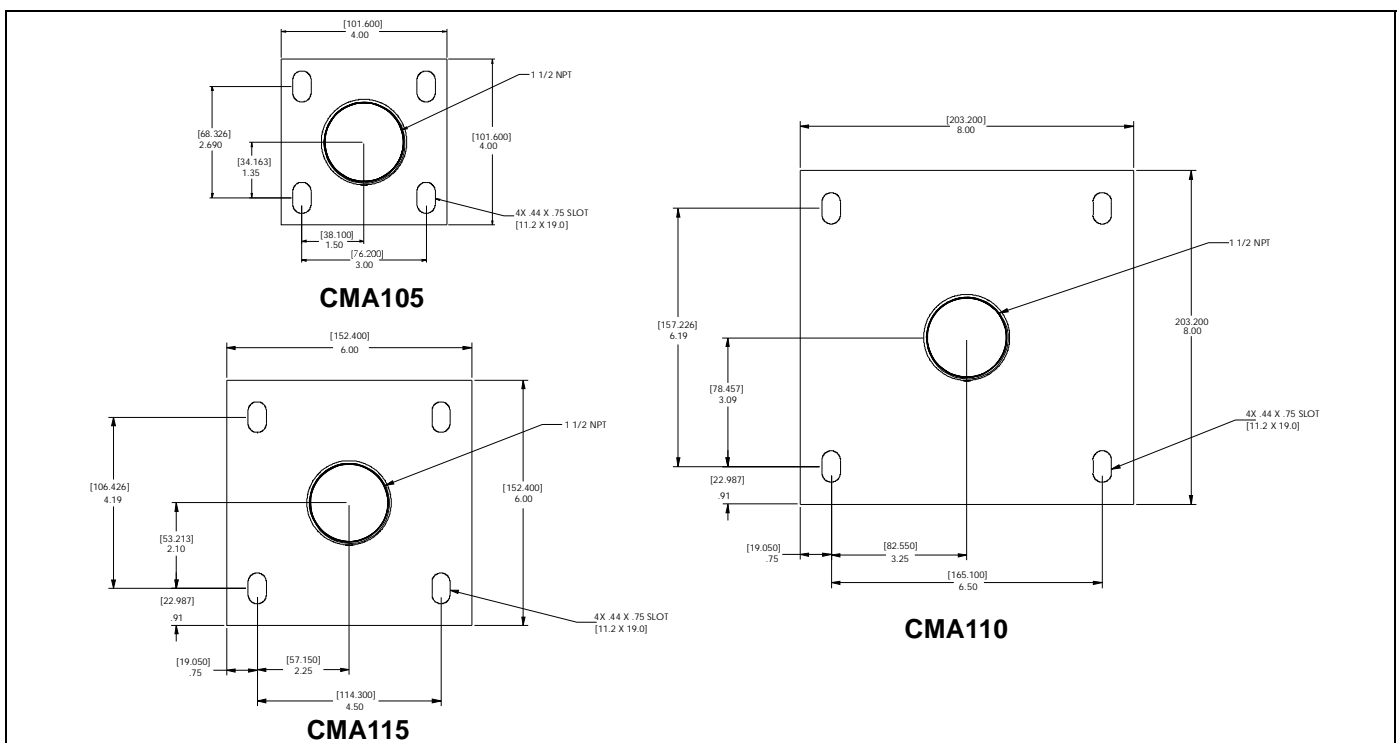

Figure 1
1. Use 5/16-18" x 2-1/2" (minimum) Grade 2 lag screws (not included) to secure CMA mount to the joists or wood framework, using the bolt holes noted. (See Figure 1)
1. Insert the rods into the four bolt holes in the CMA mount. (See Figure 1)
1. Use either 1/4" x 2-1/2" lag bolts for Toggler AF8 anchors (not included), or 5/16" x 2-1/2" lag bolts for Fischer UX10 concrete anchors (not included) to secure CMA mount into solid concrete ceiling. (See Figure 1)